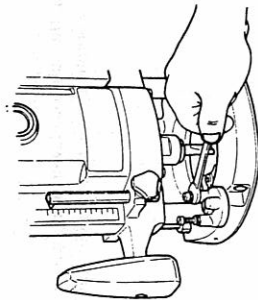

Fig. 9
- (5) Also, by adjusting the two screws of the stopper block, three different cutting depths can be set. (Fig. 9)